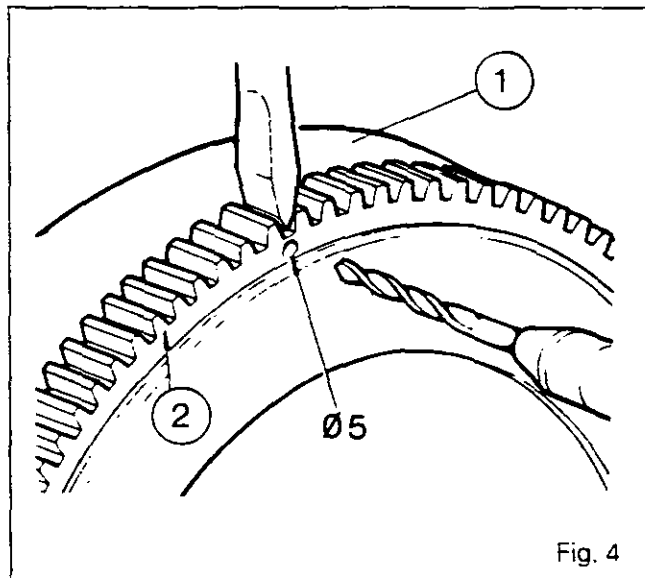

Fig. 4
2. Use a 5 mm dia. drill bit to drill a hole 16 mm deep between the inside diameter of the ring gear (2) and the bottom of a tooth (Fig. 4).